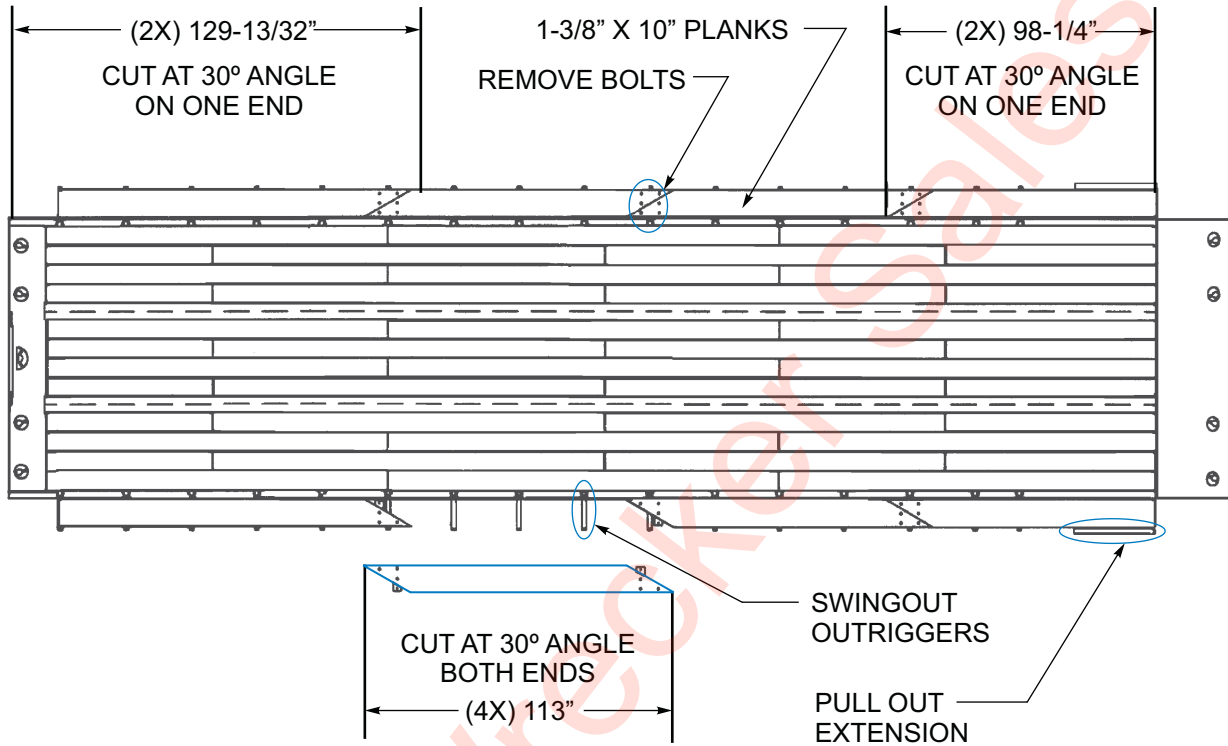

Figure 3-6: Outrigger Platform Extension
1. Unlatch and fold out swing-out outriggers (See Figure 3-6.)
6. Remove only two bolts for each joint (See Figure 3-6.) Leave braces attached to boards for storage.